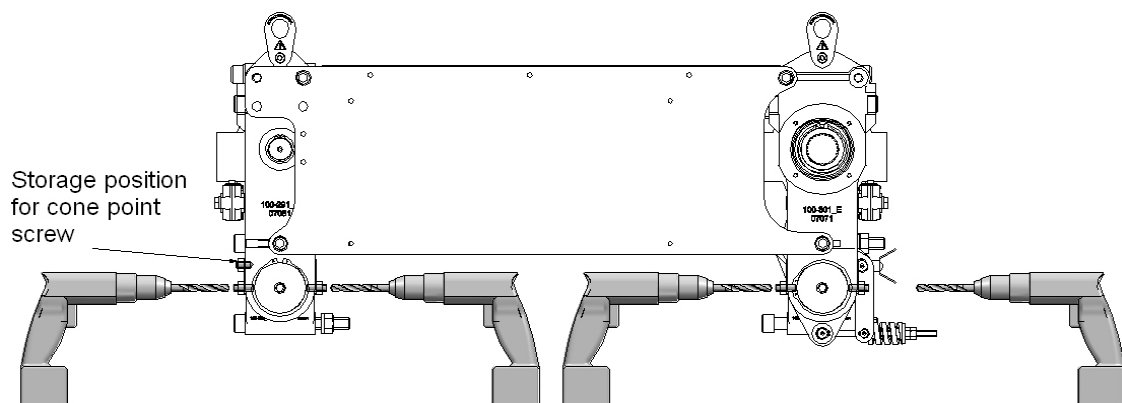

Figure 18 – Setting the Low Headroom Legs
- Using a 10mm diameter drill, drill a full cone of 10mm diameter into both legs at four positions (see Figure 18).